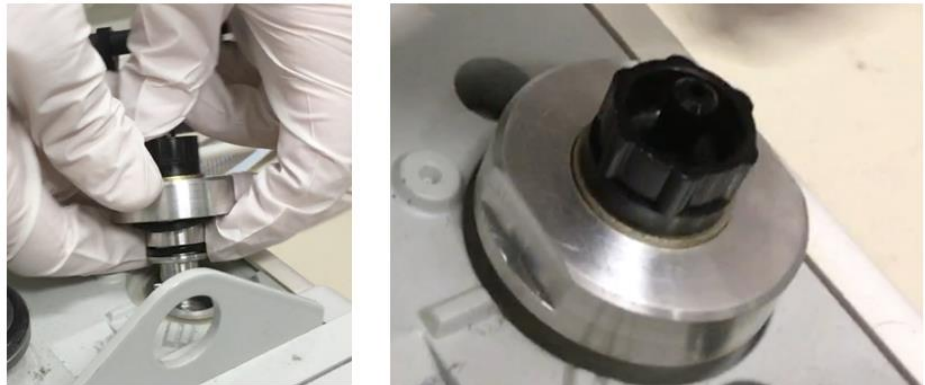

Figure 13: Installing the adapter into the inlet
- 6) Insert the adapter assembly into the inlet port using the matching notches. See Figure 13.